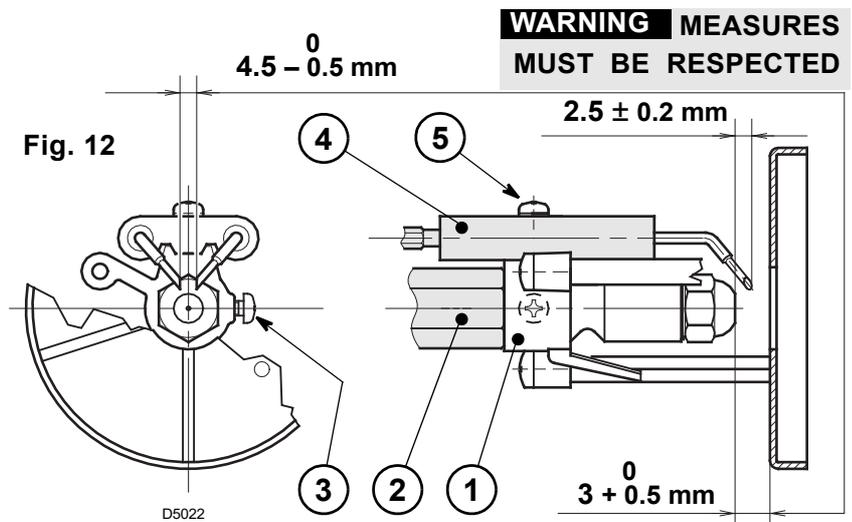

Fig. 12
- Hook the burner to the flange (1), by removing the blast tube (2) after loosing the fixing screws (3).
- Remove the small cables (4) from the electrodes and the diffuser disc-holder assembly (5) from the nozzle-holder assembly after loosing its fixing screw (3, Fig. 12, page 7).
- **Screw the nozzle (6) correctly and tighten it as shown in the figure.**
4.3 ELECTRODES ADJUSTMENT (see Fig. 12)
- Replace the nozzle (see Fig. 10, page 6) and check the correct position of electrodes (Fig. 12, page 7).